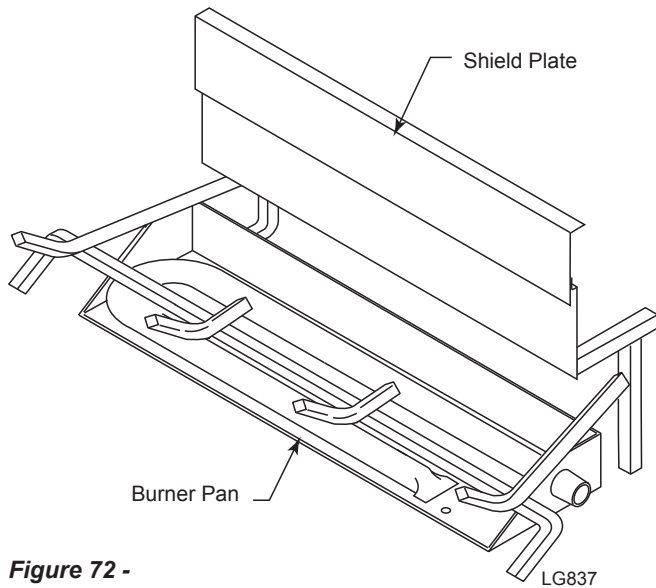

**Figure 72 -
1. Slide shield plate behind burner pan. *Figure 72*